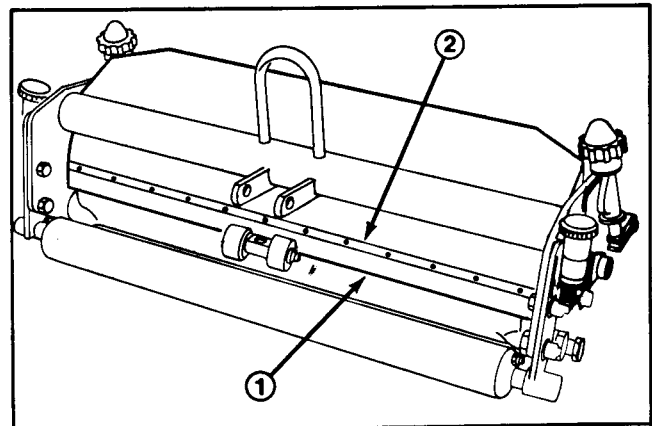

Figure 30
10. To install bedbar, slide it into position between side plates, making sure each end of bedbar is under shield (Fig. 30).